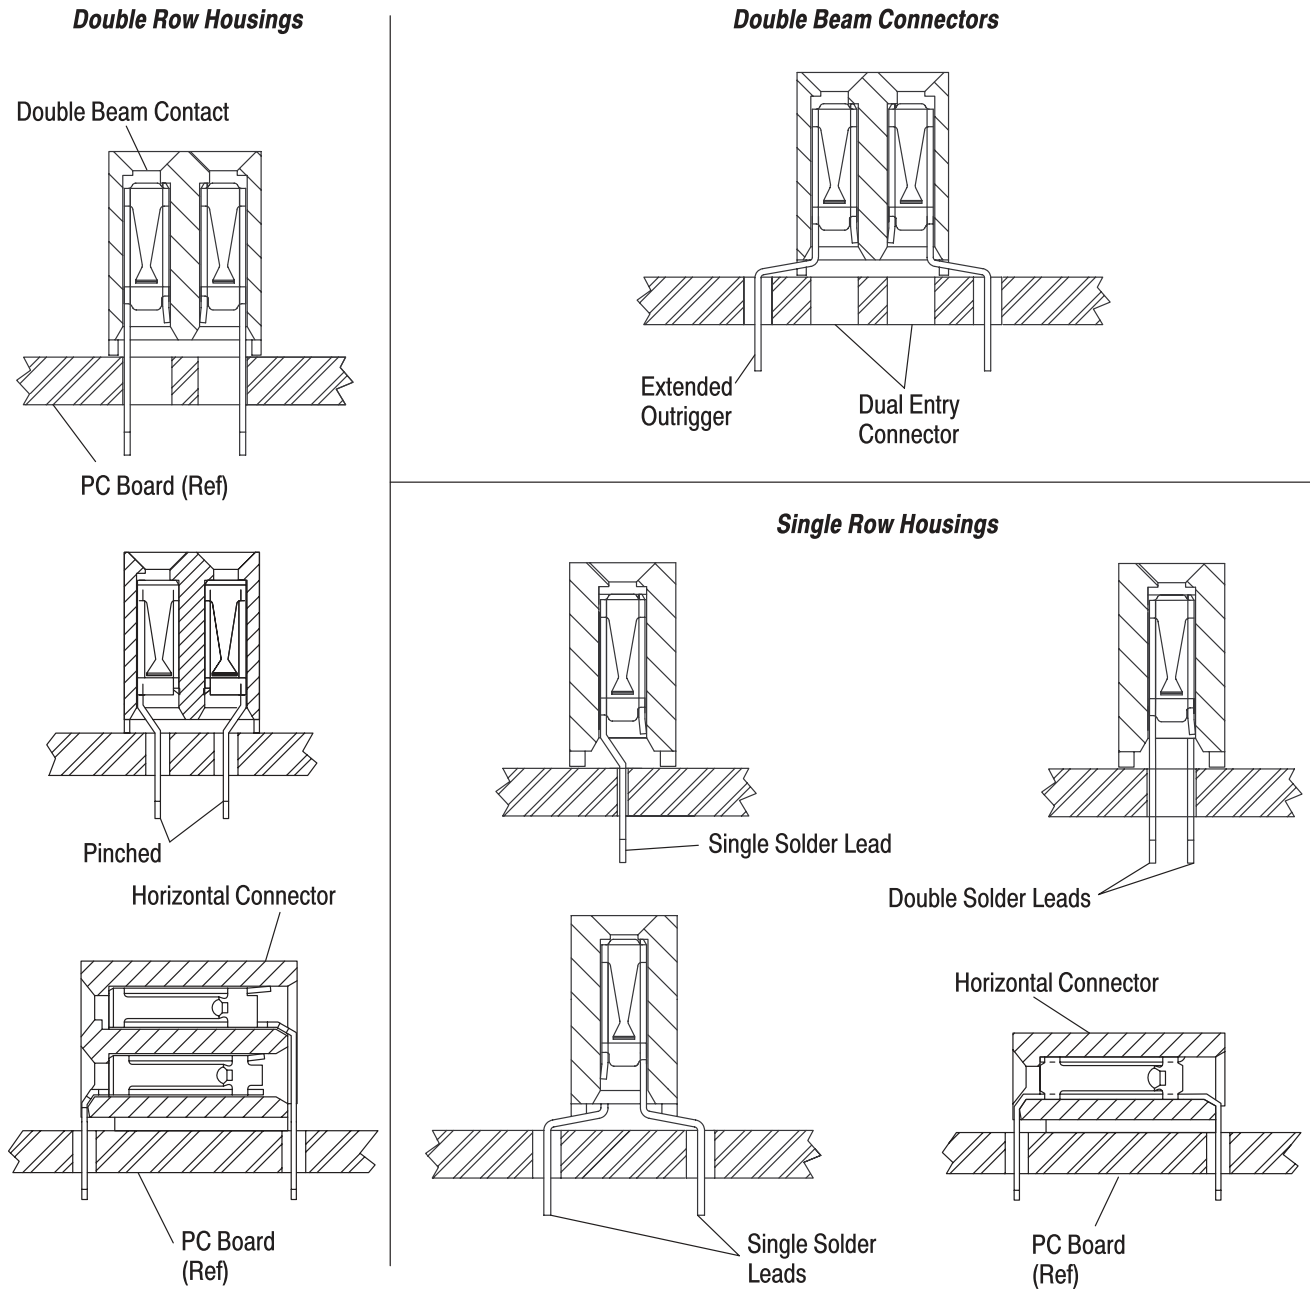

Figure 2
The housing contact cavities on the mating face of the connectors have a tapered lead-in to facilitate mating with contact posts. Through hole connectors are available as: (1) top entry with pinched solder leads; (2) dual entry with in-line and extended outrigger solder leads; and (3) right-angle horizontal connectors. Vertical surface mount connectors are also available. See Figure 2.